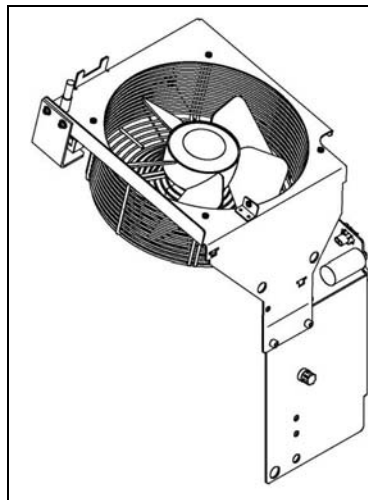

Figure 8. Complete Right Hand Fan Assembly
16. Using the provided 14 mm 1/2" drive hex driver for the lower left bolt and your 10 mm hex wrench, install new assembly (Figure 8) onto gantry. Apply Loctite 271 to each bolt.